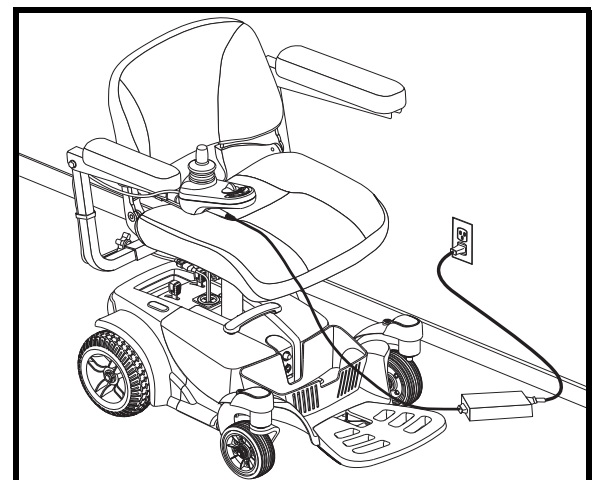

Figure 23. Battery Charging Through Controller
3. Plug the off-board charger into the off-board charger port located on the controller. See figure 23.